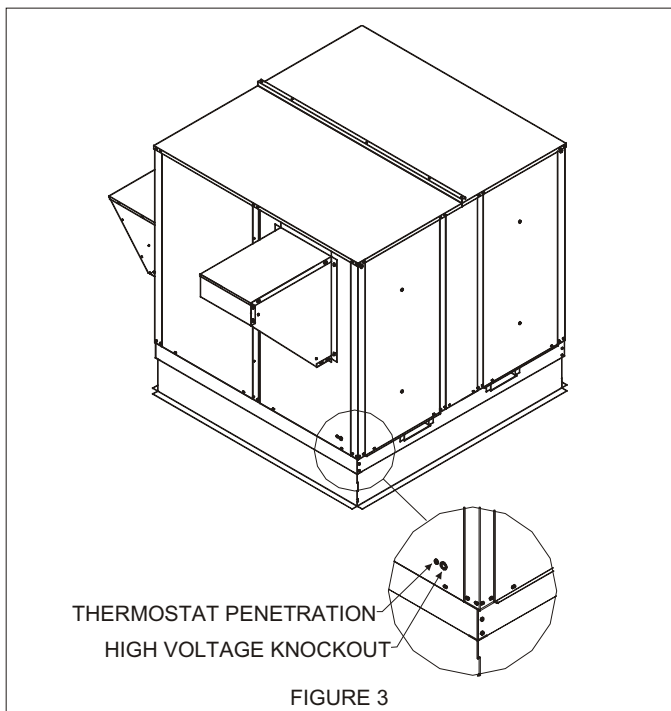

FIGURE 3
3. Route Class II low voltage wire (3 conductor) from thermostat, relay, or Energy Management through small bushing provided in the end panel in the ERV. **See Figure 3** for location of penetration.